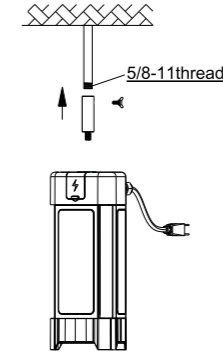
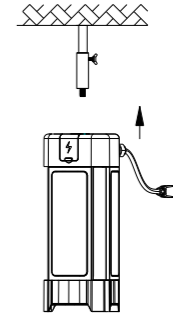

Figure15
Figure 16
1. Only suitable for threaded round pole with the diameter 5/8inch. Put the 5/8 NPT Stem into the round pole (Figure 15), then tighten the 5/8 NPT Stem by screwing the butterfly screw (Figure 16);
2. Connect the fixture to the 5/8 NPT Stem; (Figure 16, 17)